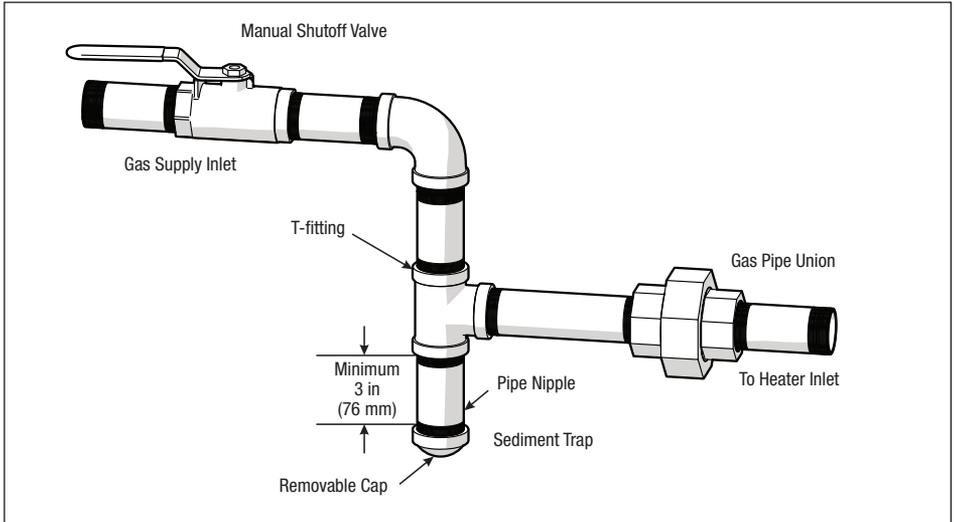

Figure 8. Manual Shut-off Valve and Sediment Trap
- Install a sediment trap and union ahead of the gas controls and outside the heater body. See *Figure 8*.
Do not use flexible appliance connectors on any gas connections unless the connector is CSA approved for outdoor installation, and is marked with the BTUH capacity (which must be equal to or greater than the heater rated input) and the type of gas (Natural or LP). Also, any flexible connectors, such as CSST buried underground must be certified for underground installation and meet all applicable codes. Please note, use of flexible connector still requires the installation of a sediment trap per NFPA 54. See *Figure 8*.